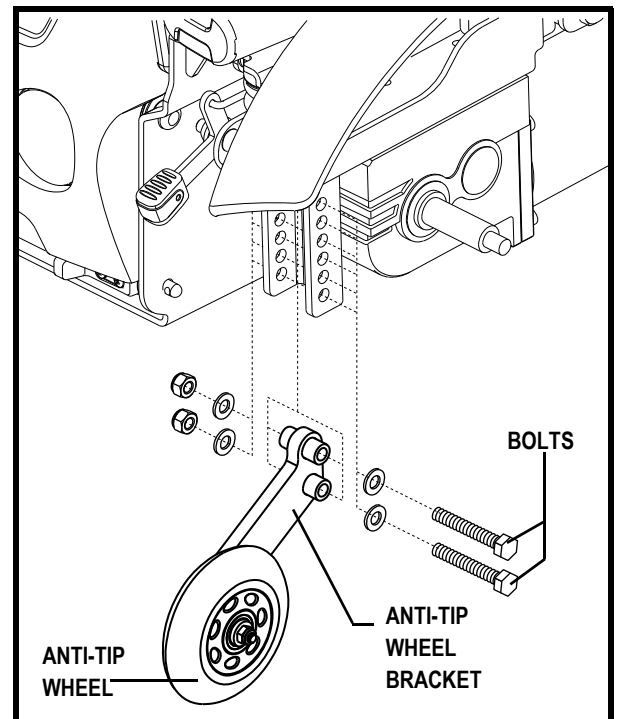

Figure 21. Anti-Tip Wheel Assembly
1. Remove both bolts from the anti-tip wheel bracket. See figure 21.
2. Raise or lower the anti-tip wheel in 1.25 cm (0.5 in.) increments by aligning the appropriate adjustment holes. See figure 21.